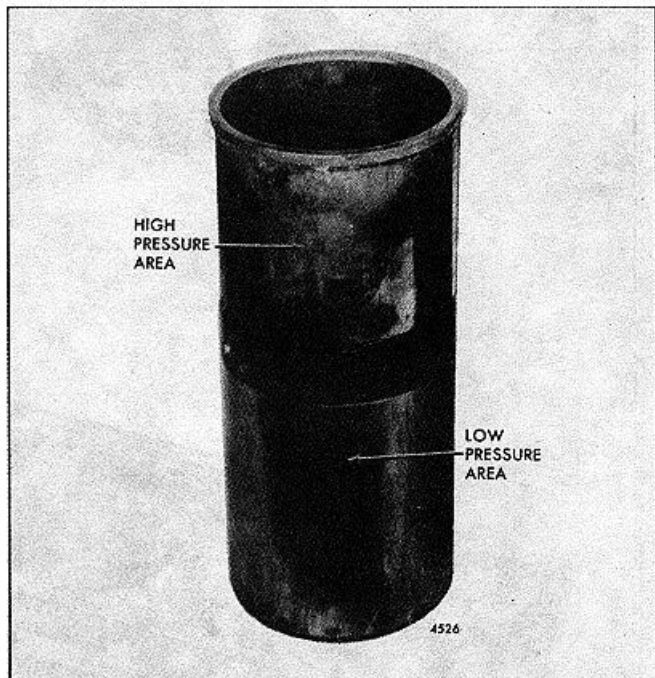

FIG. 7 - High Pressure Areas on Cylinder Liner
2. The cylinder liner is alternately expanding and contracting, during engine operation, due to temperature variations. This may result in irregularities in the block bores (out-of-round and taper), the effects of which will be seen as high pressure areas on the outside diameter of the cylinder liner (Fig. 7). A slight increase in block bore size is normal with high mileage or long periods of engine operation.